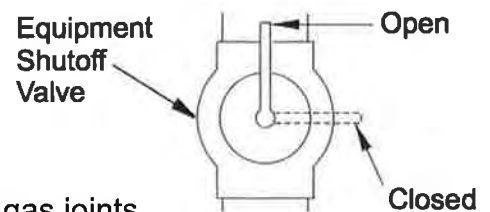

Fig. 17 - Equipment Shutoff Valve
1. Close equipment shutoff valve (See Fig. 17).
1. Open equipment shutoff valve (See Fig. 17).